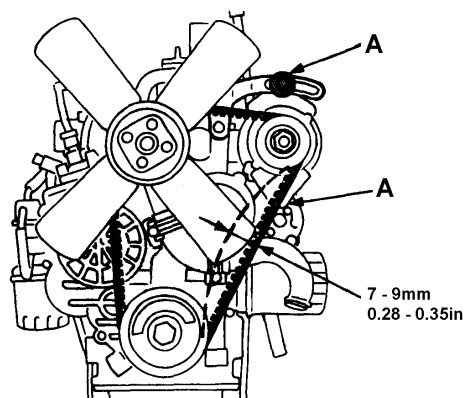

Figure 5.11.1
- (a) Release the two bolts (A Fig. 5.11.1) holding the alternator and adjust alternator until the tension is correct.